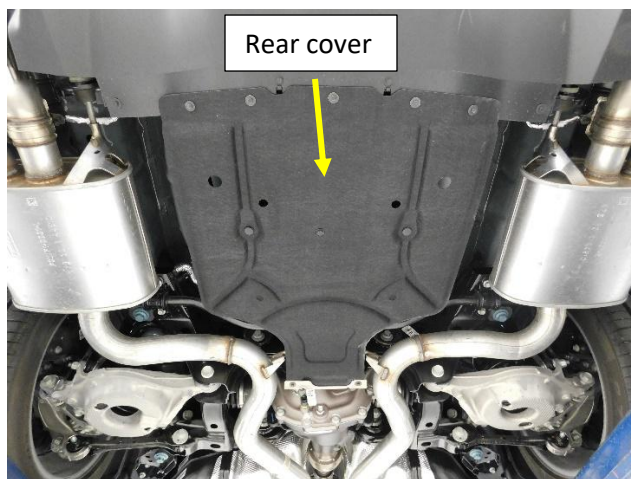
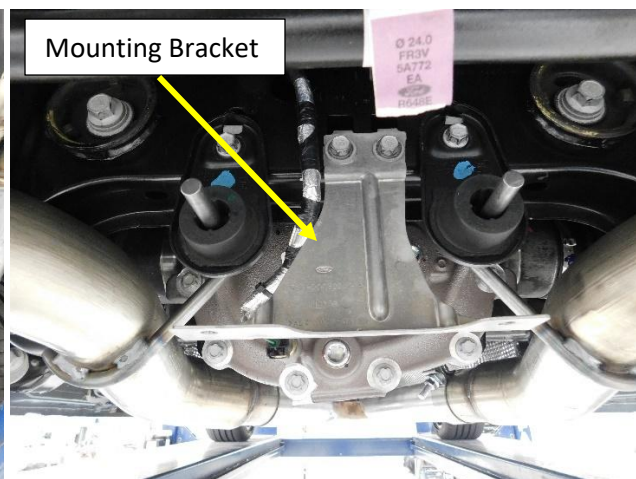

Figure.1
Figure.2
2. Remove the rear cover and Mounting bracket as shown in **Fig .1, Fig.2**